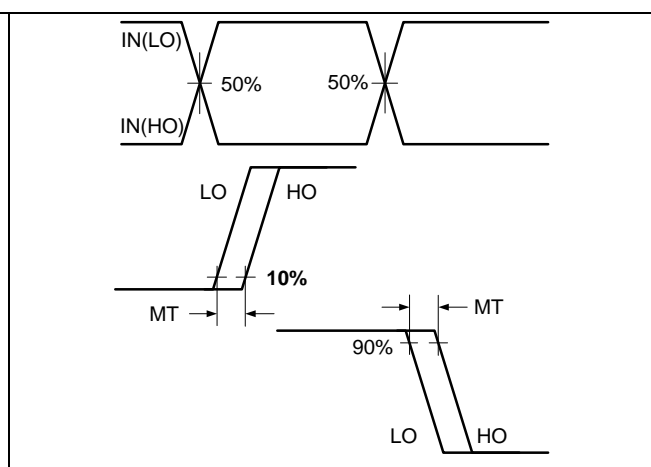

Figure 9 Delay Matching Waveform Definitions
The deadtime circuitry of 2ED2183 (4) S06F (J) is matched with respect to the high- and low-side outputs. Figure 9 defines the two deadtime parameters (i.e., DT_{LO-HO} and DT_{HO-LO}); the deadtime matching parameter (MDT) associated with the 2ED2183S06F (J) specifies the maximum difference between DT_{LO-HO} and DT_{HO-LO}.